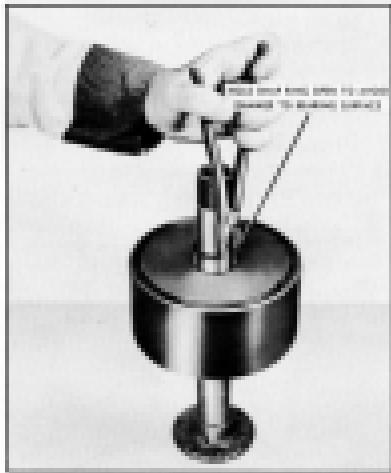

Fig. 409. Removing Rear Clutch Hub Snap Ring
7. Remove snap ring back of front unit center gear. (Fig. 409)
1. Place front unit assembly in press and remove clutch drum retaining ring. (Fig. 409)